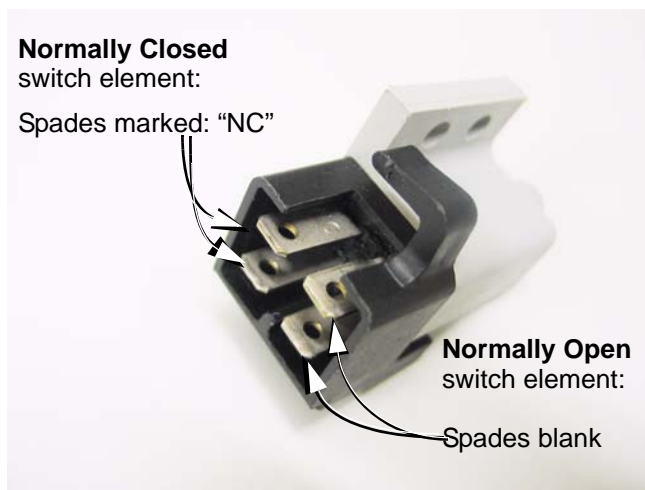

Figure 7.59
- The male spade terminals that are associated with each-other face each-other broad-surface to broad surface. See Figure 7.59.